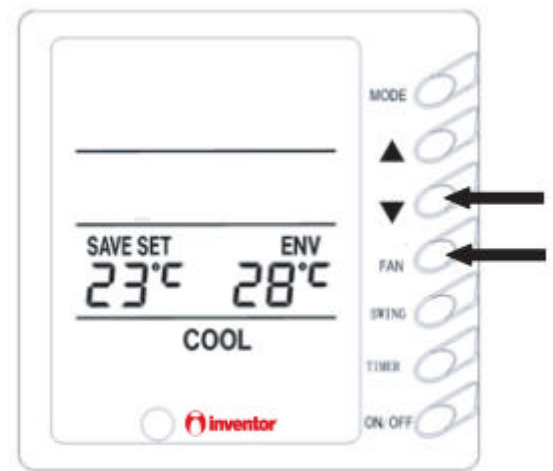

Fig 9
8) SAVE set up (Fig.9)
The above setting has been completed, the system will display “SAVE” icon, no matter by buttons on displayer or the wireless remote control, the setting temperature should not exceed the former SAVE setup temperature range, for example as show in Fig. 9, we set up the cooling lower limit is 23°C in SAVE setting, the upper limit is 27°C, the user can set the cooling temperature between 23°C to 27°C by the wireless remote control and buttons on displayer.